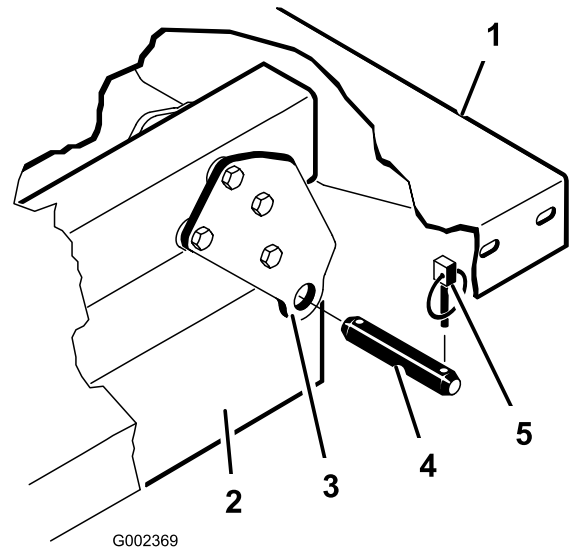

Figure 33
5. Remove the lynch pins and clevis pins securing the pivot brackets to the frame channels (Figure 33).
Note: Ensure that the rear pivot plates are bolted to the bed frame/channel so that lower end angles to the rear (Figure 33).